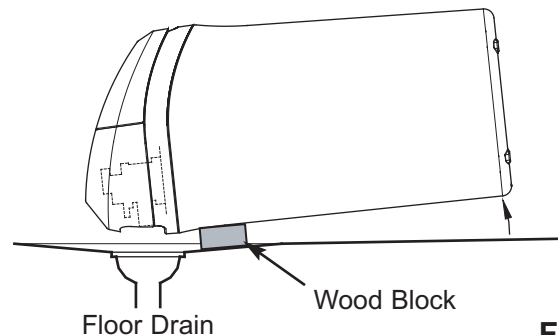

FIG. 43
6. Lay a piece of 5 cm thick board near the floor drain (See Figure 43).